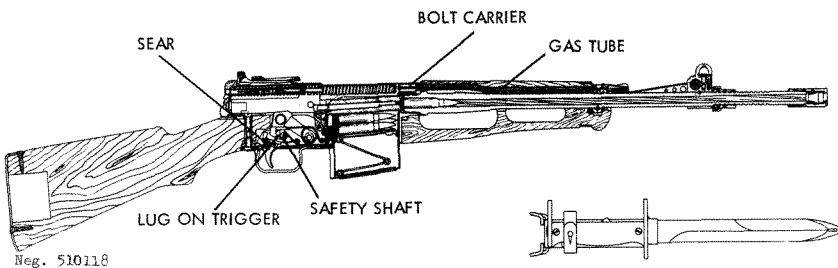

Figure 119. M.A.S. 49/56 section.
a. The M49 and M49/56 function identically. The rifles are gas operated. Upon firing, some of the gas that propels the bullet is tapped off and directed back, through a gas tube, into the bolt carrier (fig 119). The gas impulse drives the bolt carrier rearward. The driving spring compresses and the hammer rocks back, compressing its spring. After a short distance, cam grooves (in the rear of the bolt carrier) contact lugs on the bolt (fig 119) and lifts the rear of the bolt up, out of the locking recess in the receiver.
c. When the hammer is cocked, a hook on the hammer is caught by a lug on the trigger (fig 119). When the trigger is pressed, it rotates about its pin, and its lug releases the hammer. Concurrently, the spring-loaded sear, pivoted to the rear of the trigger (fig 119), rotates forward. The hammer spring swings the hammer forward to fire the cartridge.
f. When the safety (fig 113 and 115) is rotated rearward to safe, the solid portion of its shaft (fig 119) rotates in front of the trigger and thus prevents forward trigger motion. When the safety is rotated forward to the fire position, a cutaway section of the shaft moves in front of the trigger and no longer blocks its movement.